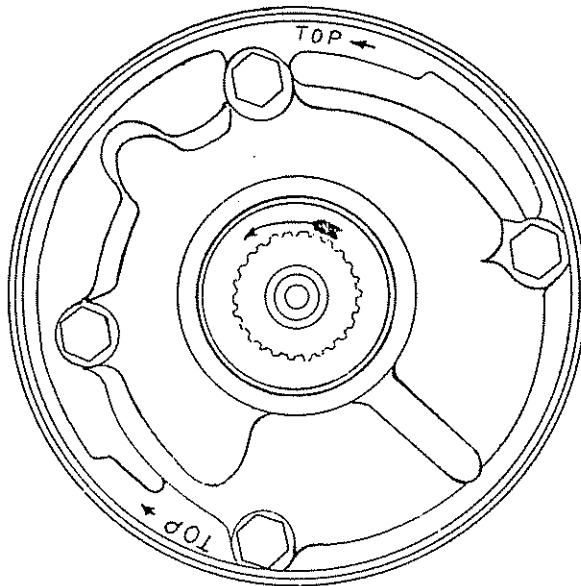

FIG. 1 VIEW FACING PUMP AND INPUT SHAFT
- 1) Remove the four bolts which hold the pump to the transmission, (Fig. 1).